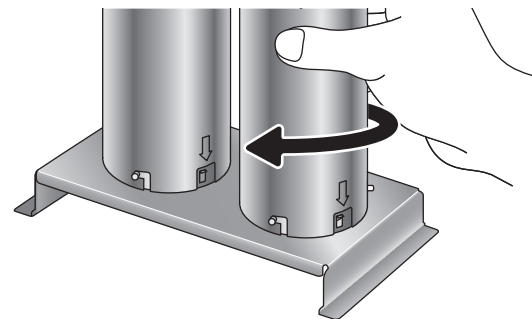

Fig. 5: Unlocking and removing the reflectors
3. Separate the reflectors from the grill insert by turning them (fig. 5).